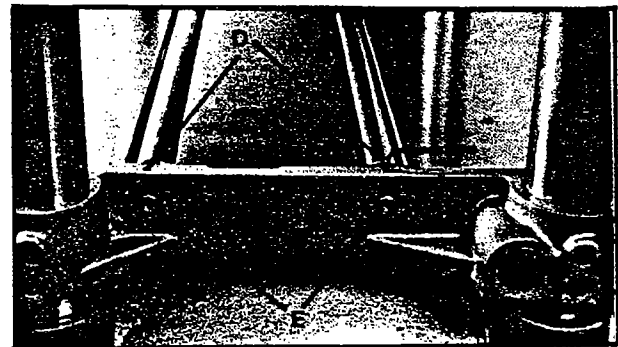

Fig. 31
Your planer is supplied with two table rolls (A) Fig. 31, which aid in feeding the stock by reducing friction and turn as the stock is fed through the planer. It is not possible to give exact dimensions on the proper height setting of the table rolls because each type of wood behaves differently. As a general rule, however, when planing rough stock the table rolls should be set HIGH and when planing smooth stock the table rolls should be set LOW.